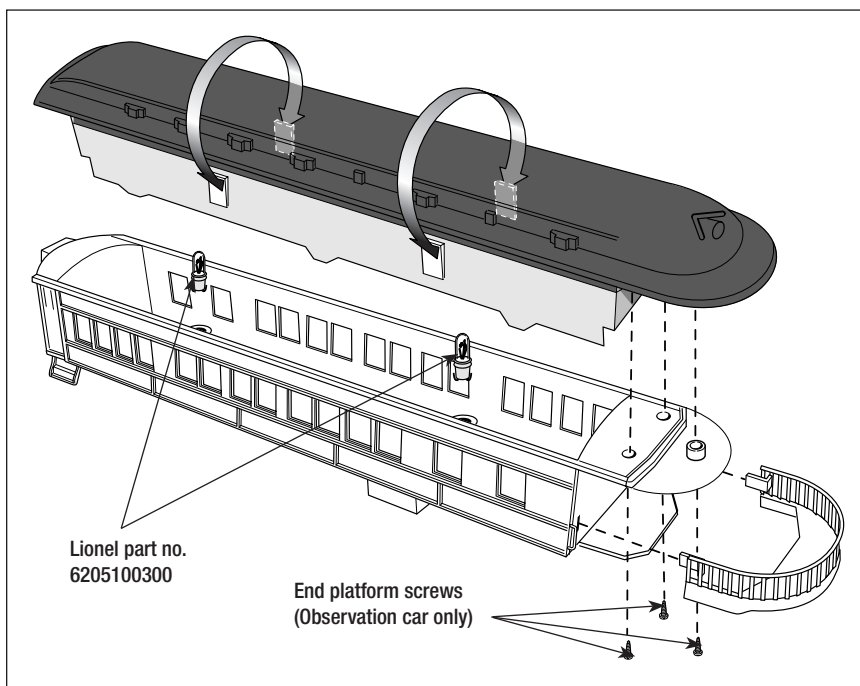

Figure 13. Passenger car lamp replacement
2. As illustrated in Figure 13, press in the four window insert tabs.
5. Replace the roof and window insert. Replace the three screws in the roof above the observation car platform. Refer to Figure 13.